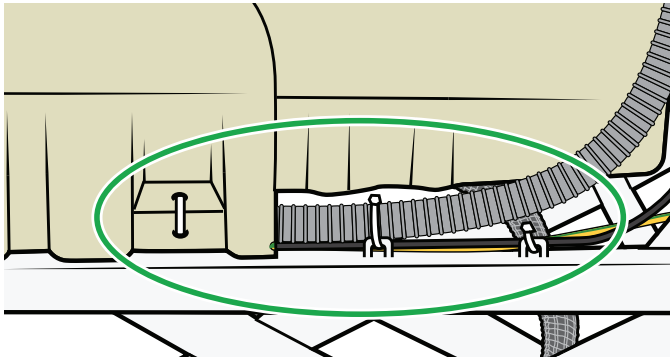

Figure 69
10. Attach three cable ties. See Figure 69.